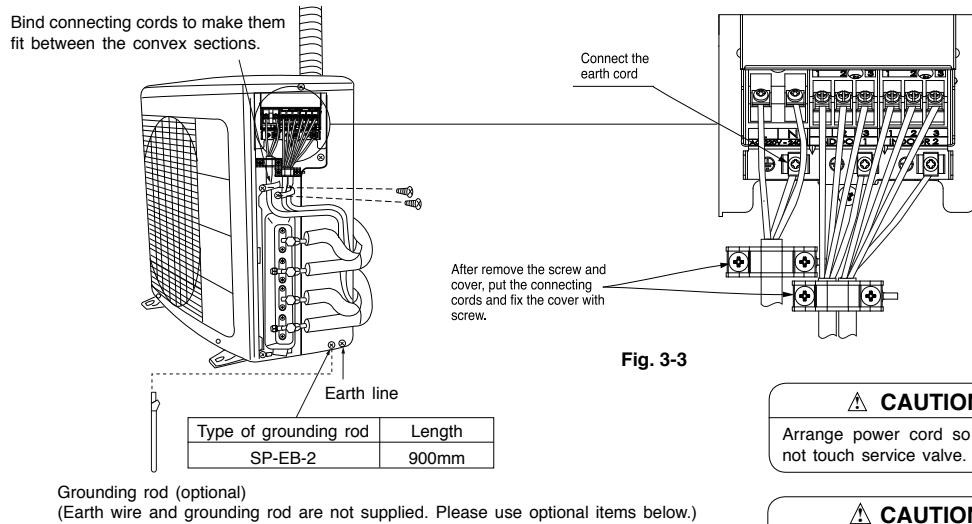

Fig. 3-3
- Connect the connecting cord and power cord to the terminal board. (Fig. 3-3)
- Fix the connecting cords and power cord with steel band certainly. (Fig. 3-3)